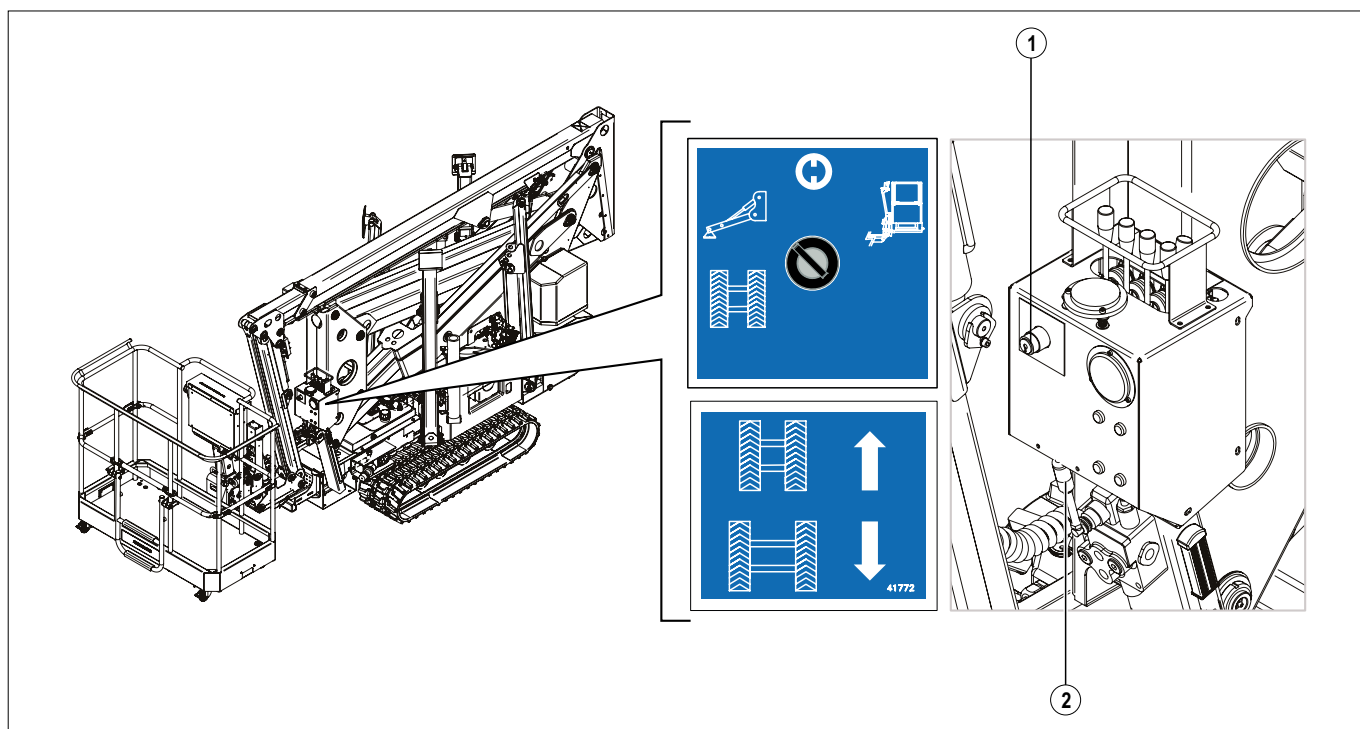

FIG. 27 (Extending or retracting the carriage)
- 1) Insert the key into the selector switch on the control console and turn the selector anticlockwise (**FIG. 27 - Ref. 1**);